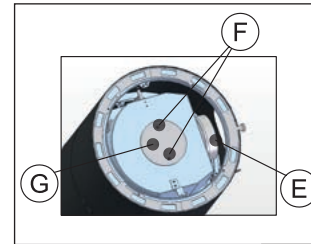

Fig. 2i
**Assembly from the top to the rear:** If the chimney connecting piece is already assembled, please remove (Fig. **2f** point A). Remove the top cover lid and the cover lid for the rear flue gas connection (Fig. **2f** point B). Undo the screws and remove the cover plate (Fig. **2g** point B and C). Then disassemble the pipe nozzle of the top outlet. Firstly remove the screws (Fig. **2h** point C and D). Assemble the pipe nozzle on the rear flue gas connection (Fig. 2i point E). Then assemble the cover plate on the top flue gas connection (Fig. **2i** point E and G). Finally fit the cover lid for the top flue gas connection (chimney connecting piece) and reposition the cover lid (Fig. **2j** point E and G).